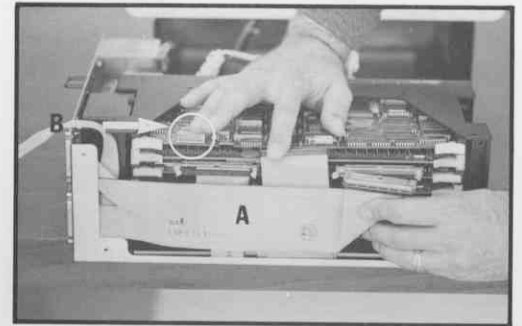

Figure 61 RS232 Cable and Ethernet Cable
- 4.40** Connect the RS232 cable to the CPU board as shown in Figure 61.
- 4.41** If you have a 10mbit Ethernet board, connect the narrow Ethernet cable to it (Figure 61).